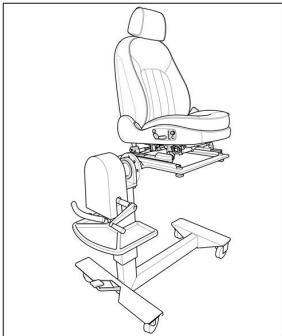

Figure 12
2. To replace the proximity sensor, valance trim and control module cover - Refer to workshop manual Rep.Gr 72 Seat frames - Fronts seat repair stand VAS 6136 to prepare. The repair stand is as shown in Figure 12. The operative should ensure all procedures are followed as detailed to avoid damage to personnel and/or the seat